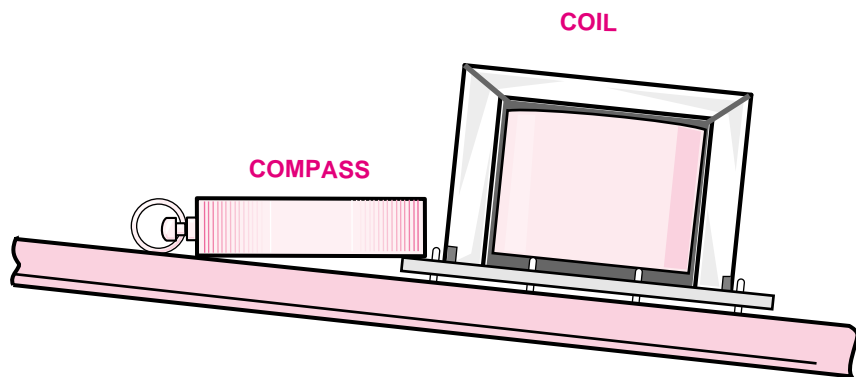

Figure 12
- ❑ 14. Place the compass near the inductor as shown in Figure 12.